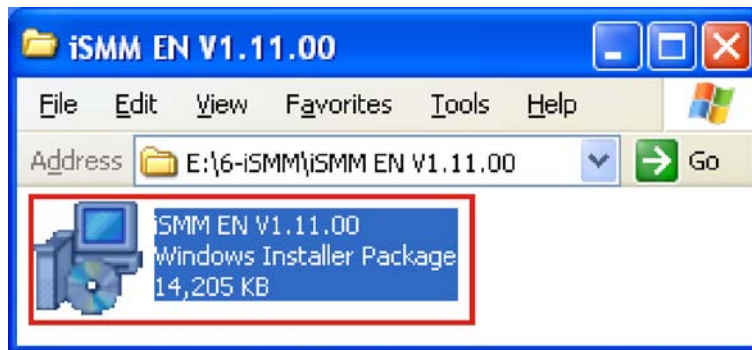

Figure 6-36: iSMM Installation File
Step 5: The contents of the directory are displayed. (Figure 6-36)
Step 6: Double click the **iSMM EN V1.11.00** setup file. (Figure 6-36)